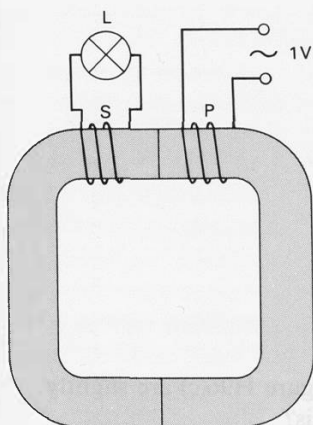

Figure H95
43(P) In figure H95, P is a primary coil of 20 turns, joined to a 1 V alternating supply. S is a secondary of 50 turns joined to a small 2.5 V lamp, L, which lights with what we may call 'normal brightness'. These facts are expressed in the top line of table H5.